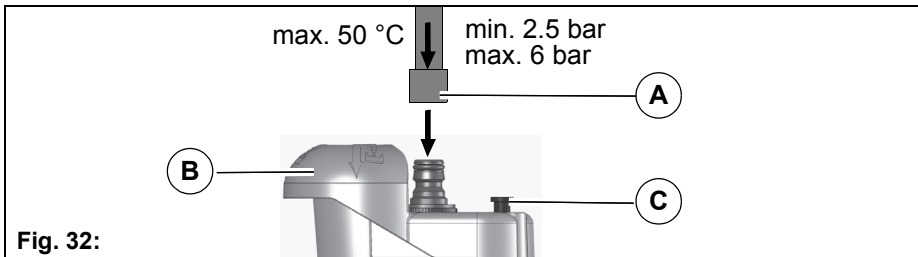

Fig. 32:
1. Fit the hose with the quick coupler **Fig. 32-A**. Do not yet open the water supply!
2. Push the operating button **Fig. 32-B**. The indicator knob **Fig. 32-C** protrudes.
4. The filling unit switches off automatically when the tank is full. The indicator knob **Fig. 32-C** no longer protrudes.
The machine can also be filled manually through the opening in the operating button **Fig. 32-B**.